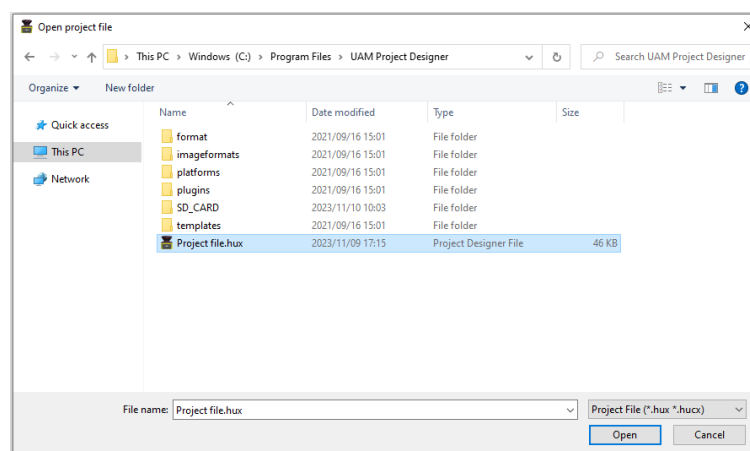

Figure 7-58 Open project file
- c) Dialog box will appear (Figure 7-58). Select the project file [\*\*\*\*\*.hux] to open.